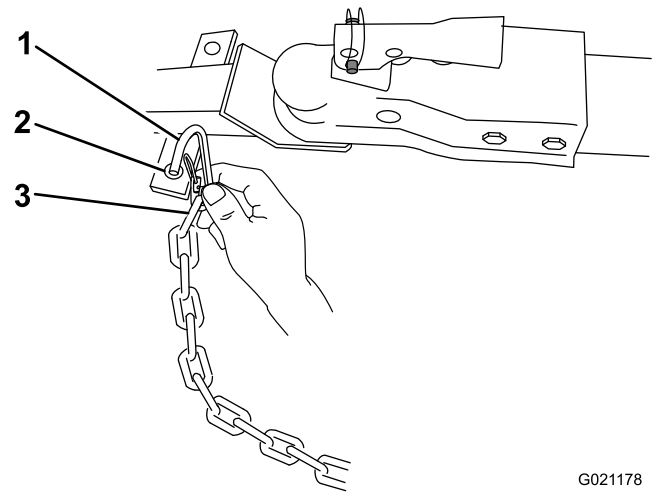

Figure 19
3. Connect each length of chain to the safety chain mounting point on the tow vehicle with the connecting links (Figure 19).